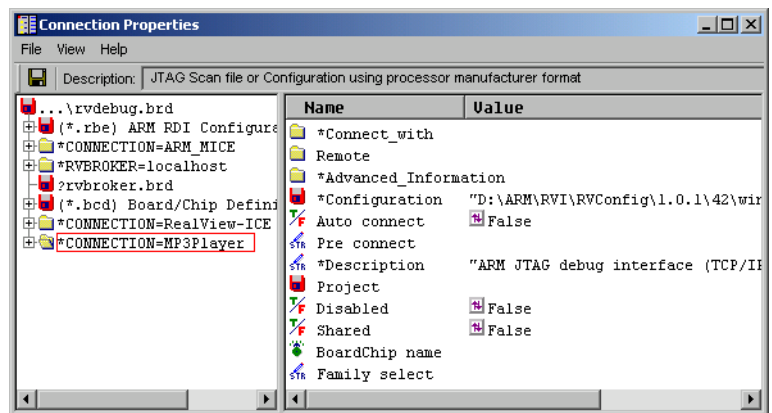

Figure 3-23 Displaying the new MP3Player connection properties
17. Right-click on the new `MP3Player` connection and select **Connection Properties...** from the context menu. This displays the Connection Properties window showing the contents of the new connection, shown in Figure 3-23.